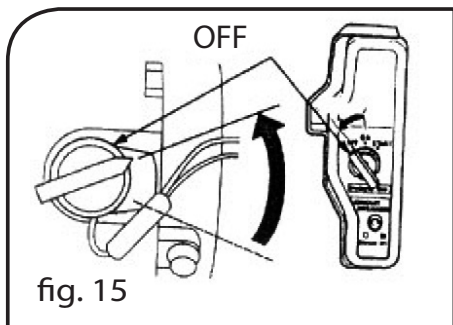

fig. 15
1. Push the engine switch to the OFF position (Fig. 15).